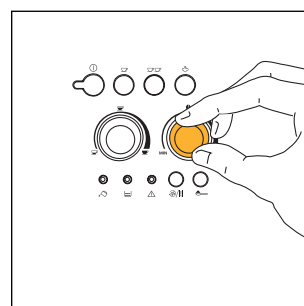
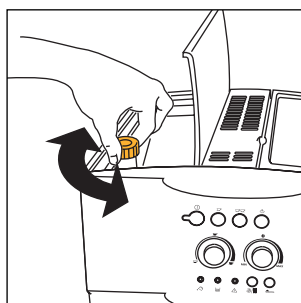

Fig.7
Fig. 17
- 2) Adjust the right-hand knob (Fig. 7) to set the desired taste of the coffee. Turning the knob clockwise increases the quantity of coffee beans that the machine will grind, and thus makes the taste of the coffee stronger. When using the machine for the first time, the correct position of the knob can be found by trial and error. Make sure not to turn it too far clockwise, otherwise the coffee will be delivered too slowly (in drops), above all when preparing two cups of coffee.
NOTE 1: If the coffee is delivered a drop at a time or not at all, turn the grinding coarseness regulator (fig. 17) one click clockwise (see para. 6). Turn a click at a time until the coffee is delivered satisfactorily.
NOTE 2: If the coffee is delivered too fast and is not creamy enough, turn the right-hand knob (fig. 7) clockwise. Proceed by trial and error to find the correct position of the knob. Make sure not to turn the knob too far clockwise, otherwise the delivery may become too slow (in drops), above all when making two cups of coffee. If, after several coffees, the cream is still not satisfactory, also turn the grinding adjustment knob (Fig. 17) one click clockwise (see para. 6).
To resolve this problem, re-set the grinding coarseness on the coffee grinder by adjusting the knob (Fig. 17) one click anticlockwise (as described in chap. 6).
Nonetheless, after having made the first coffees, if delivery is too fast or too slow (in drops), the grinding coarseness must be adjusted using the knob (Fig. 17) located inside the bean container. Turning one click (one number) clockwise achieves faster delivery of the coffee (without drops).